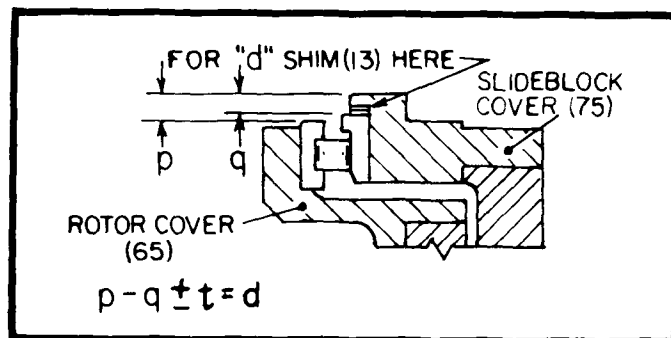

Figure 10. Cover Bearing Shim Check. (508644)
See Figure 10. If cover bearing was not replaced, secure slideblock cover to slideblock with screws (74). Lock screws together with lock wire (106). To check shimming, measure from top face of slideblock cover to the rotor cover bearing's